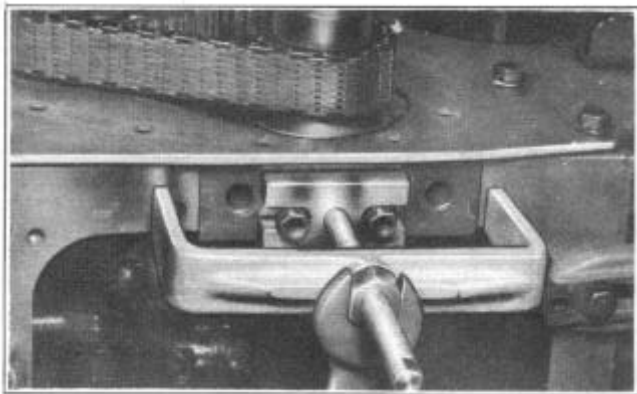

FIGURE 13
3. Remove front and rear main bearing caps with Puller J-2955, Figure 13.
NOTE: Front and rear bearing caps can be easily removed with Bearing Cap Puller J-2955, Figure 13.